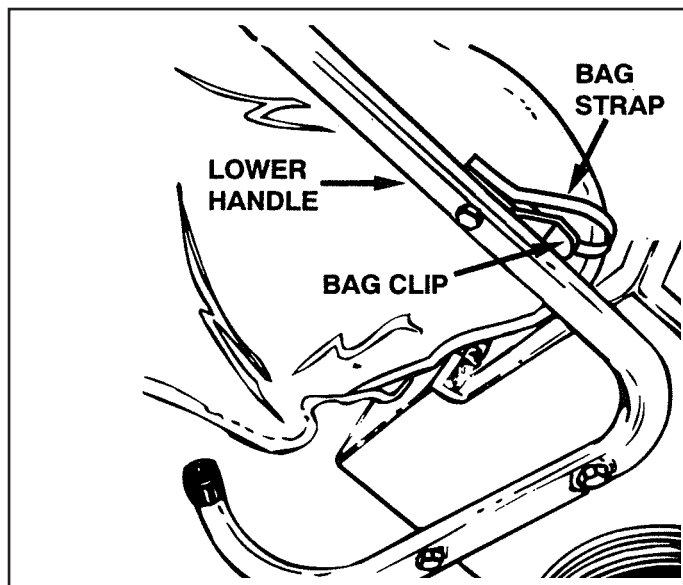

FIGURE 10
13. Hook the elastic straps on the bag flaps under the bag rod clips on the lower handle tubes as shown in figure 10.